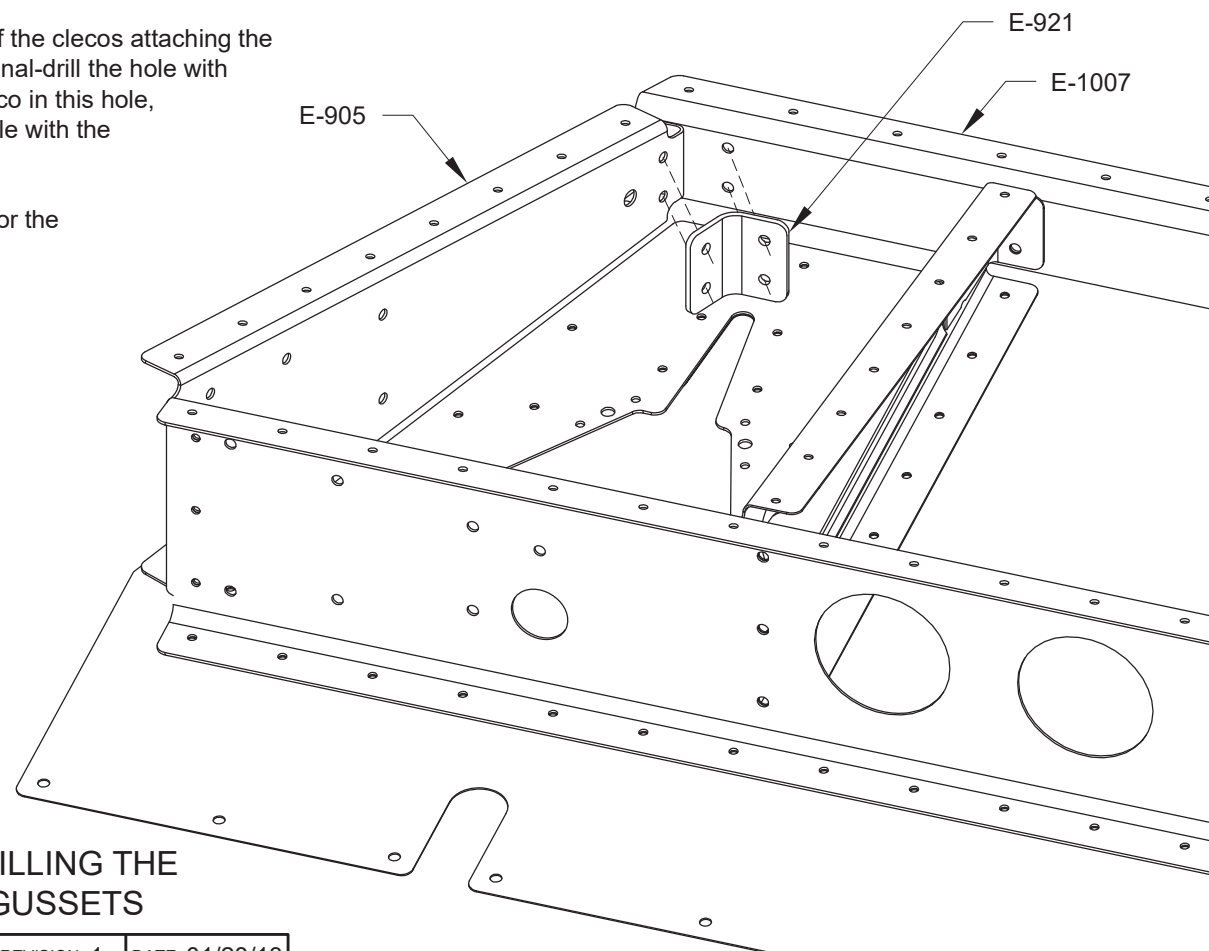

FIGURE 2: DRILLING THE ELEVATOR GUSSETS
Step 3: Cleco the E-921 Elevator Gusset to the E-905 Root Rib and the E-1007 Rear Spar as shown in Figure 2. Adjust the angle of the gusset, if necessary, to fit the angle made by the rib and spar.